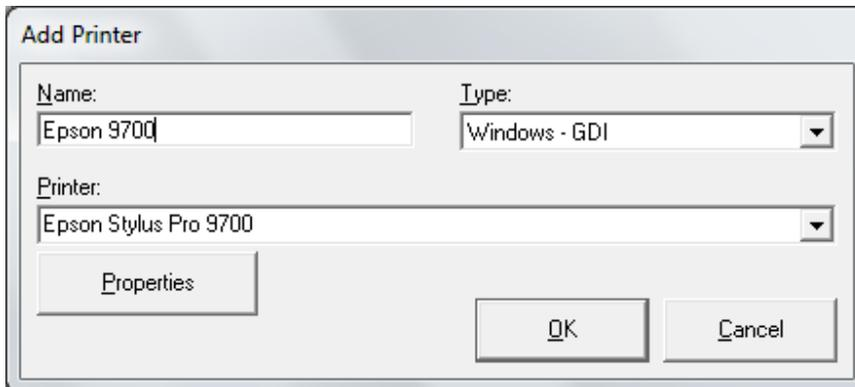

Fig 3-10
1. From the Manage Printers interface, highlight an existing printer and click [Edit] to open the Add Printer window (Fig 3-10).